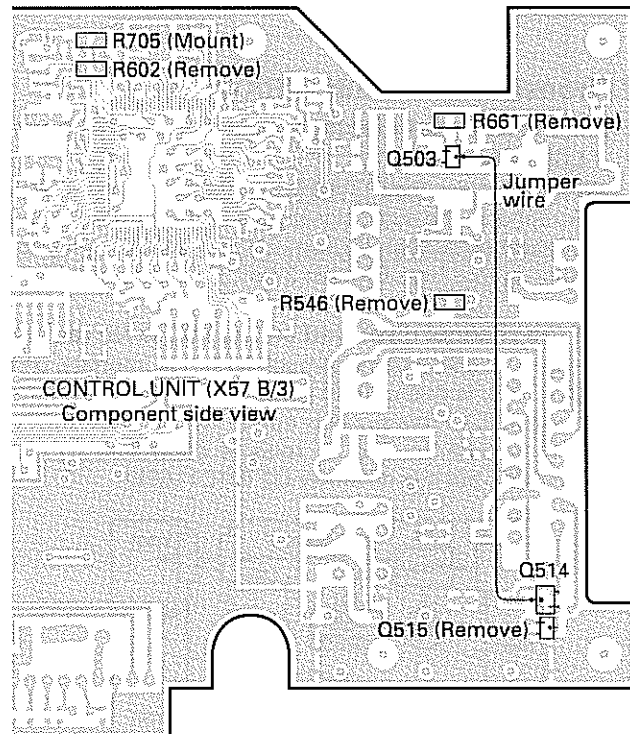

Fig. 8
3. Remove Q515 and jumper to Q503 and Q514 according to the figure 8 (TK-690H unnecessary).